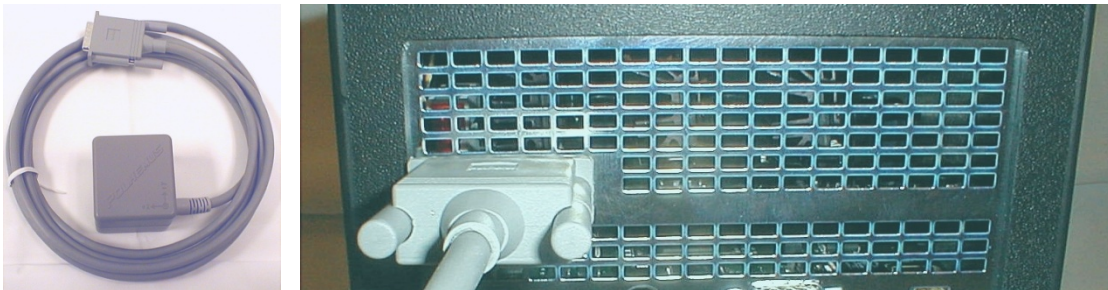

Figure 1-3 Source and Source Connection
4. Identify the source (device with DB-15 connector) and insert the source connector into the source receptacle, being careful to firmly engage it. Using your fingers, tighten the two retaining screws to secure the connector. See Figure 1-3.